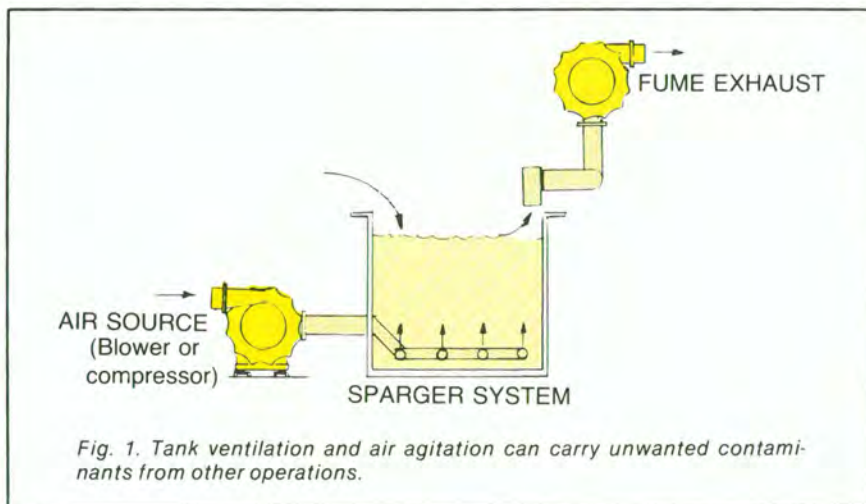

Fig. 1. Tank ventilation and air agitation can carry unwanted contaminants from other operations.
1. Tank ventilation passes large quantities of air over the surface of plating tanks (Fig. 1). This air carries with it all sorts of unwanted contaminants from other operations near and even far away from the plating line. The electrolytes, aided by wetting agents, pick up anything that drops in along the way.
2. Agitation with air creates a similar problem (Fig. 1). The solution acts as a fume scrubber, absorbing fumes, oil mist vapors, sandblast dust and any other contaminant that gets past the intake screen. (Some call it a filter, but in most cases, it is nothing more than a coarse mesh media such as you might find in a heating system in a private residence.) The use of denser filter media at this point would help, providing it didn't affect the performance of the blower. The use of a compressor to provide pressure to pass air through dense me-